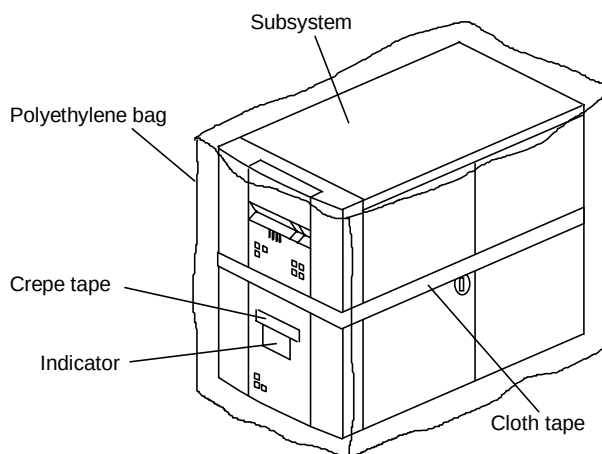

Figure 3.1.2 Subsystem without External Packaging
- (2) Figures 3.1.2 to 3.1.4 show the subsystem without external packaging.
- (3) Unpacking
- ① Loosen the polyester bands.
- ② Pull out the Tri-wall nails.
- ③ Remove the external packaging and packing materials.
- ④ Take the subsystem out of the polyethylene bag.
- ⑤ Keep two keys in the attached box carefully.